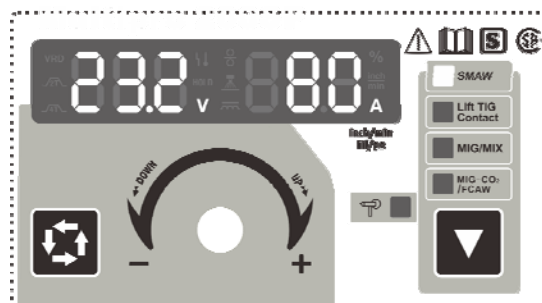

Fig.13 The Displays Status when Welding under MMA Mode.
④ Three seconds after setting the welding parameters, the **Multifunctional Data Display** will flash for one time, which means the data has been saved. Moreover, the panel will display these data when **restarting** the machine next time if the parameters keep unchanged.
⑤ The panel displays as **Fig.13** when **performing** welding, the welding voltage is 23.2V, and the current is 80A. It will go to the default state of welding current in 5 seconds when stopping welding.